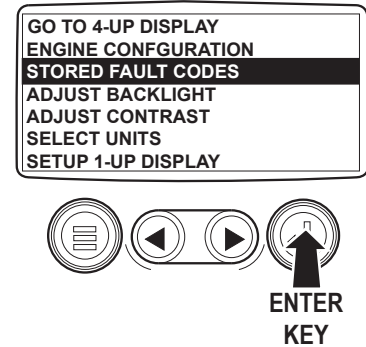

Figure 11 – Main Menu
2. Using the Right Arrow Key, toggle down the list until Stored Fault Codes is highlighted. See Figure 11.